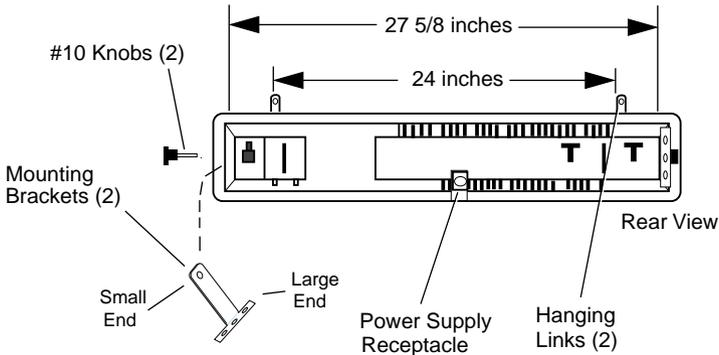

Figure 3-1. Small AlphaLert Sign Installation Diagram
1. Refer to Figure 3-1 and locate the hanging links in the seam. These are located at both ends, on the top of the sign's case.